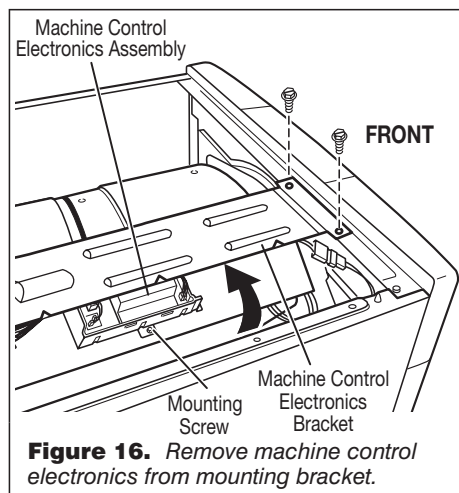

Figure 16. Remove machine control electronics from mounting bracket.
2. Slide the bracket over the top of the drum to access the machine control electronics connectors and mounting screw. See figure 16.
2. Remove the screw holding the machine control electronics assembly to the mounting bracket. See figure 16.